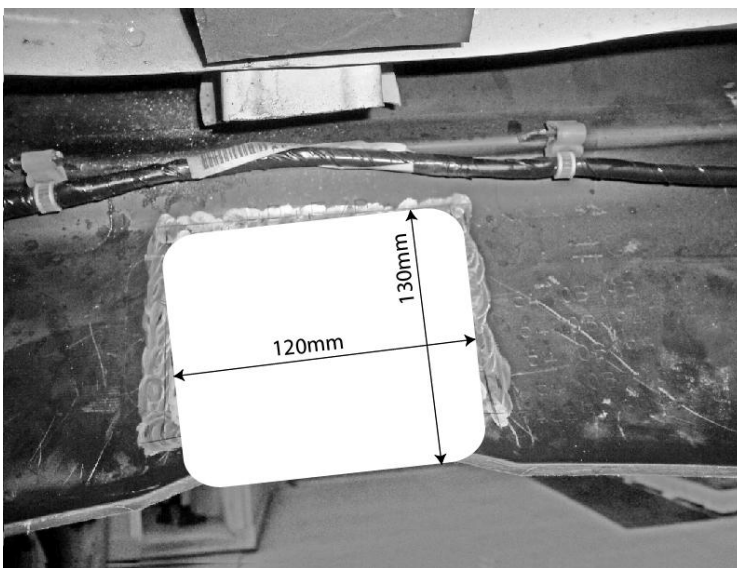

Figure 2 – Bumper Cut out illustration
4. Find the centre-line of the bumper and make a cut 120mm wide and 130mm deep, as illustrated in Figure 2.
5. Drill 5mm holes x 2, 180mm from the centre-line and 25mm from the lower edge of the bumper, on the driver side, to fit the plug bracket (item 11).
6. Feed the bolt & wire assemblies (item 14 & 15), in the horizontal holes on the chassis. Locate the towbar in place, & fit nut, spring washer and flat washer (items 6, 7 & 8) to hold it in place (only in the front hole, which has been drilled).
7. Feed the nut plate (item 12 on driver side & item 13 on the passenger side).
8. Fit the side bracket (item 10) on both sides, align the holes and fit bolts & washers.